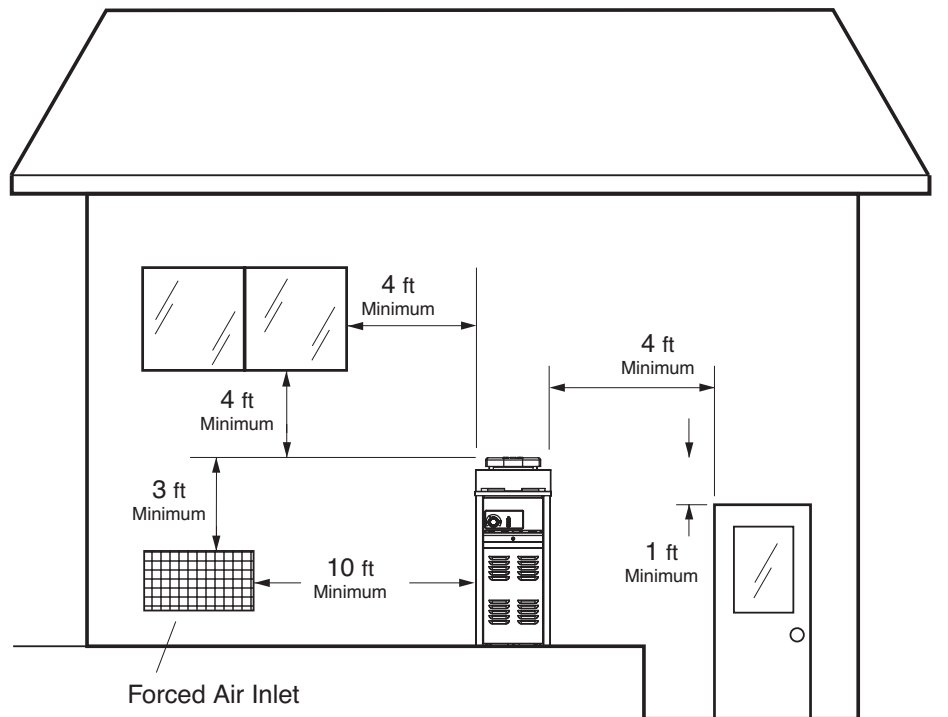

Fig. 7: Outdoor Installation Clearances
- For U.S. installations, the point from where the flue products exit the heater must be a minimum of 4 ft below, 4 ft horizontally from, or 1 ft above any door, window or gravity inlet into any building. The top surface of the heater shall be at least 3 ft above any forced air inlet, or intake ducts located within 10 ft horizontally. See Fig. 7